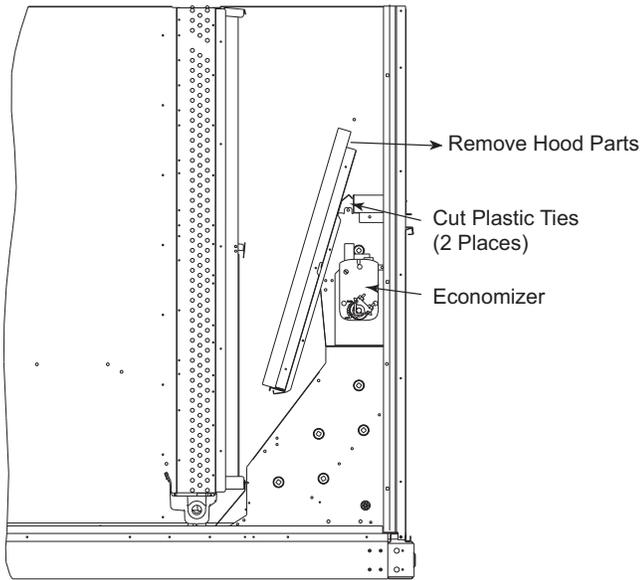

Fig. 19 – Economizer Hood Package Location
2. Locate and cut the 2 plastic tie-wraps, being careful to not damage any wiring. See Fig. 19.